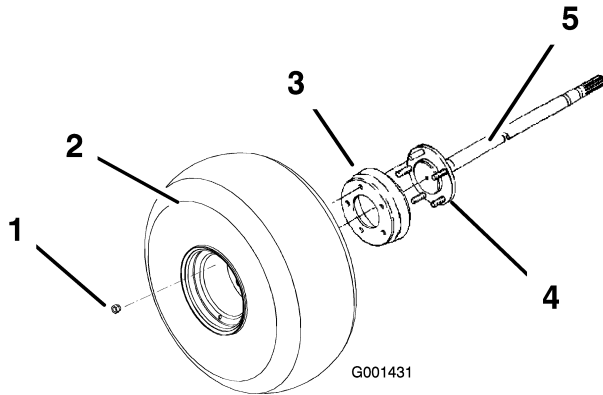

Figure 3
2. Remove the lug nuts securing the tire and wheel to the axle (Figure 3). Remove the tire